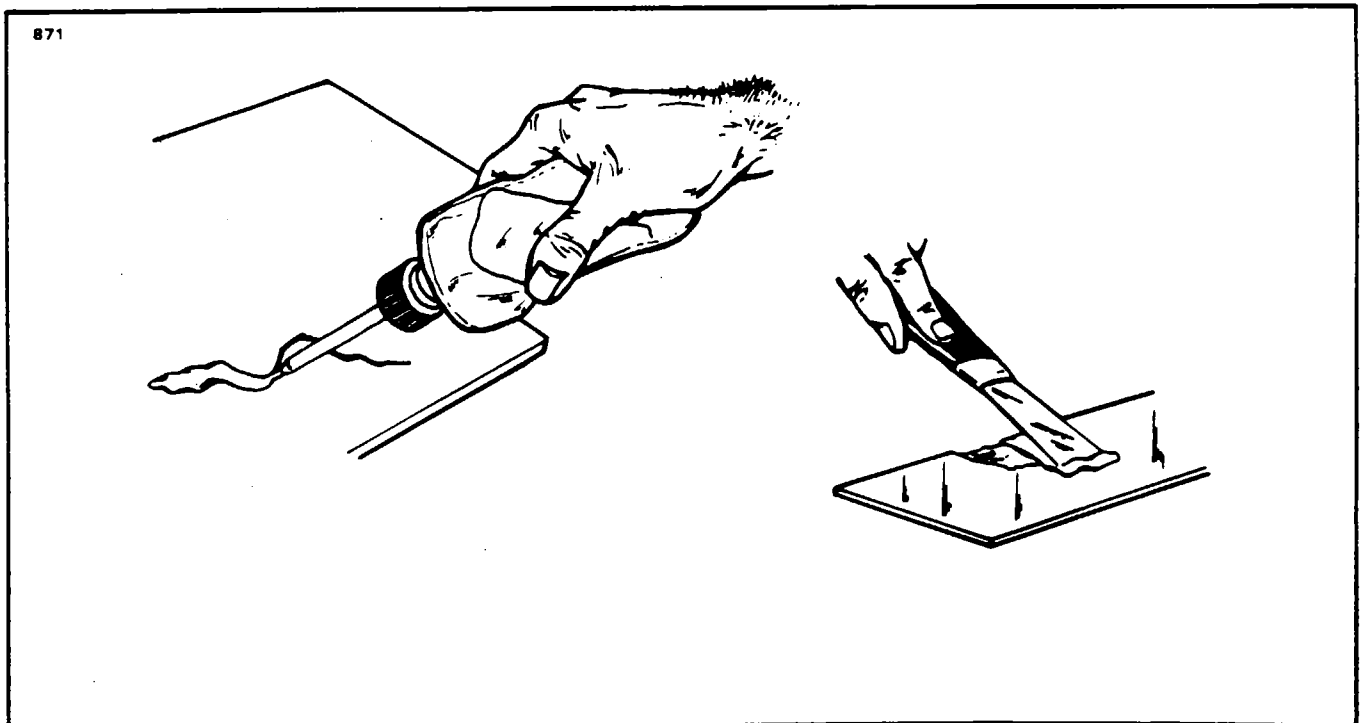

Figure 4-24. Deep Scratches, Shallow Nicks and Small Holes
c. Deep Scratches, Shallow Nicks and Small Holes: (Less than 1 inch in diameter.) (Refer to Figure 4-24.)